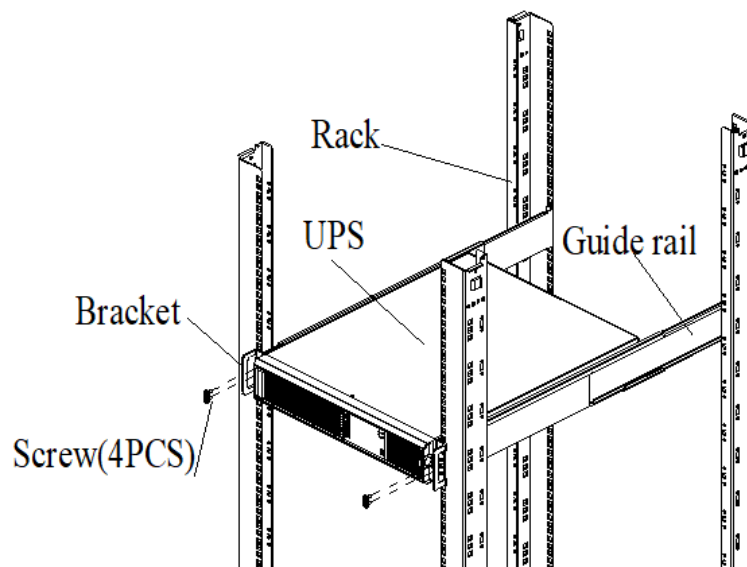

Figure 2-12 Installing the UPS
3. Place the UPS on the guide rails in the rack, and push it completely into the rack. Use four screws to fix the UPS in the rack through the brackets, as shown in Figure 2-12.